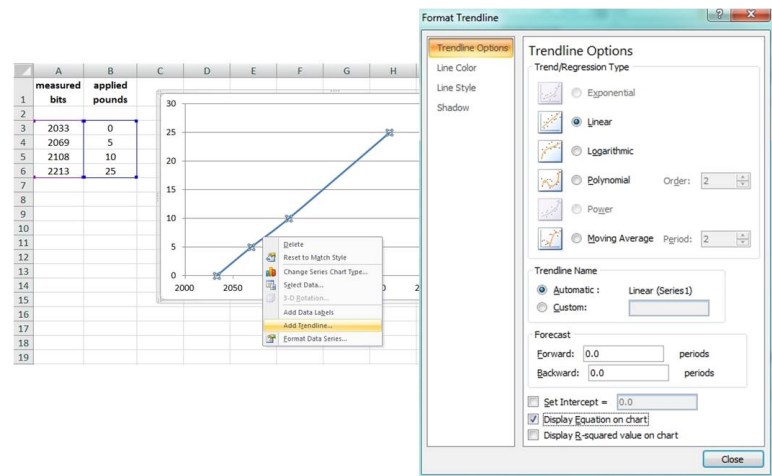

Figure 41 - Plot Trendline
5. Designate the line as Linear, and check the option to Display the Equation on the chart (Figure 41 - Plot Trendline).